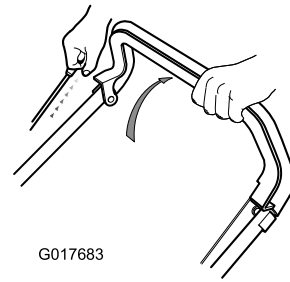

Figure 12
1. Hold the engine stop handle against the handlebar (Figure 12).
2. Pull the recoil start handle (Figure 12).